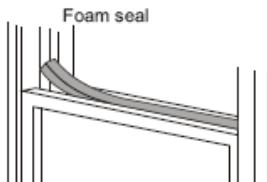

Fig.13
5. Cut the foam seal to an appropriate length and sealing the open gap between the top window sash and outer window sash. Show as in Fig.13.